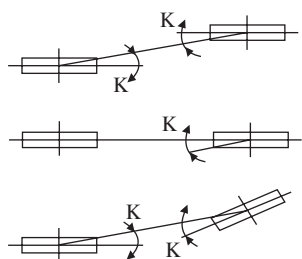

Figure 1 Parallel degree of pulley
1. Set the parallel angle of the fan and the motor pulley as shown in Table 1 and Figure 1.